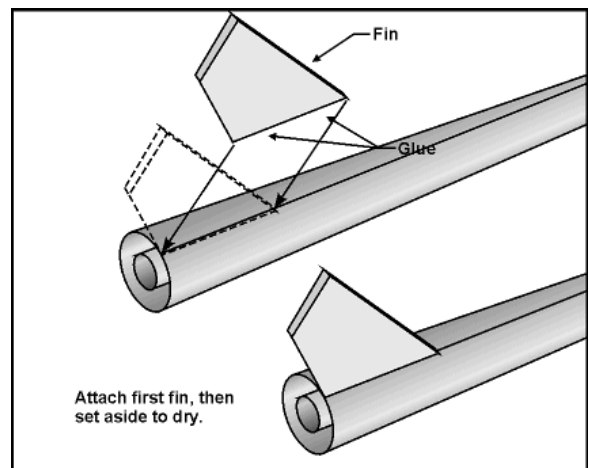

Figure 8
- Attach the four (or three) Fins (From Step 5) to the Body Tube (Same end as the Engine Mount) such that the end of the fins are flush with the bottom of the Body Tube, as shown in **Figure 8**. When dry, place a bead of glue (glue fillet) on each side of the fin at the Fin/Tube joint.